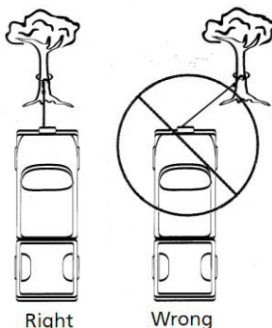

Figure 6
- 13. AVOID CONTINUOUS PULLS FROM EXTREME ANGLES as this will cause the rope to pile up on one end of the drum (Figure 6). This can jam the rope in the winch, causing damage to the rope or the winch.